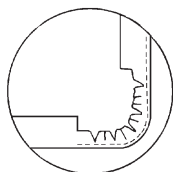

Fig. 7-8
4. Notch the seam allowance, if necessary, to reduce pressure and prevent puckers. (Fig. 7-8)